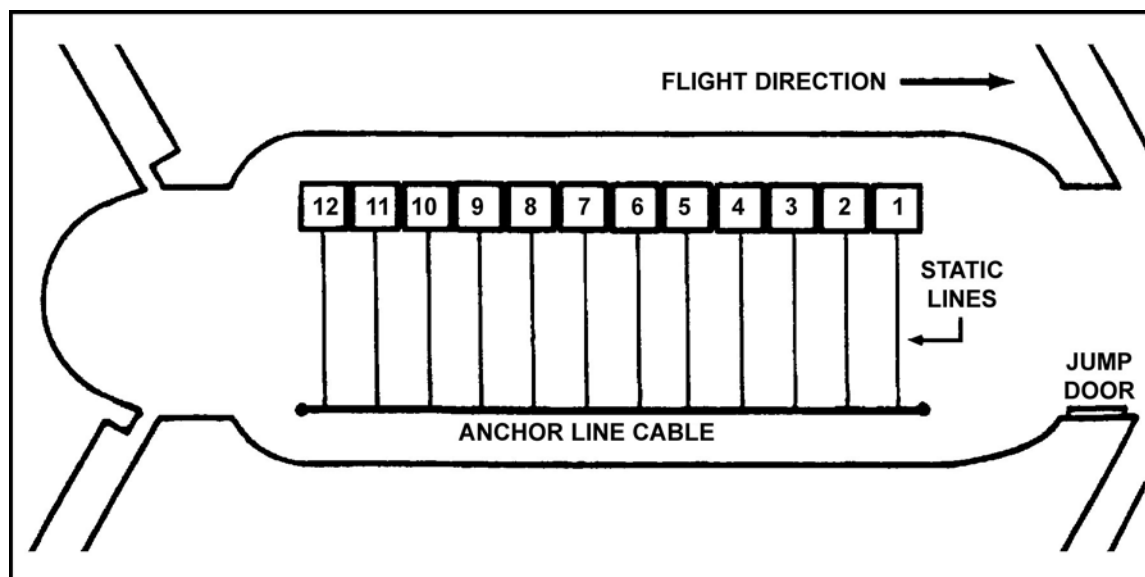

Figure 18-7. CH-46 door jump.
- (1) **GET READY.** All parachutists in the first stick unfasten their seat belts.
- (2) **STAND UP.** Parachutists stand up and move to the starboard side (Figure 18-7, page 18-10).
- (3) **HOOK UP.** The 5-foot static line extensions are attached to the anchor line cable by the snap hooks; insert and bend safety wires. The JM or AJM passes the static line extension to each jumper starting with the last jumper and working forward. When the